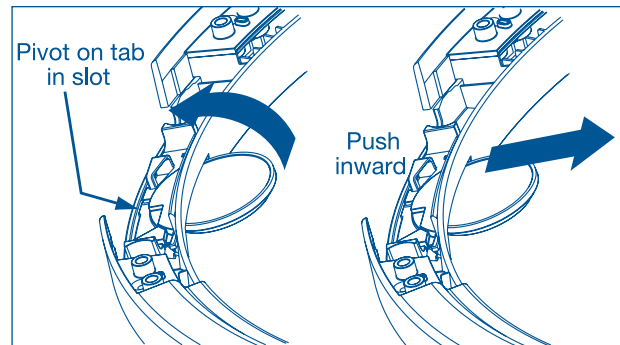

Figure 2-26.
2. Gently push the indicator toward the center of the lens to release the tab. (See Figure 2-26)
3. Rock the tab upward. (See Figure 2-26)